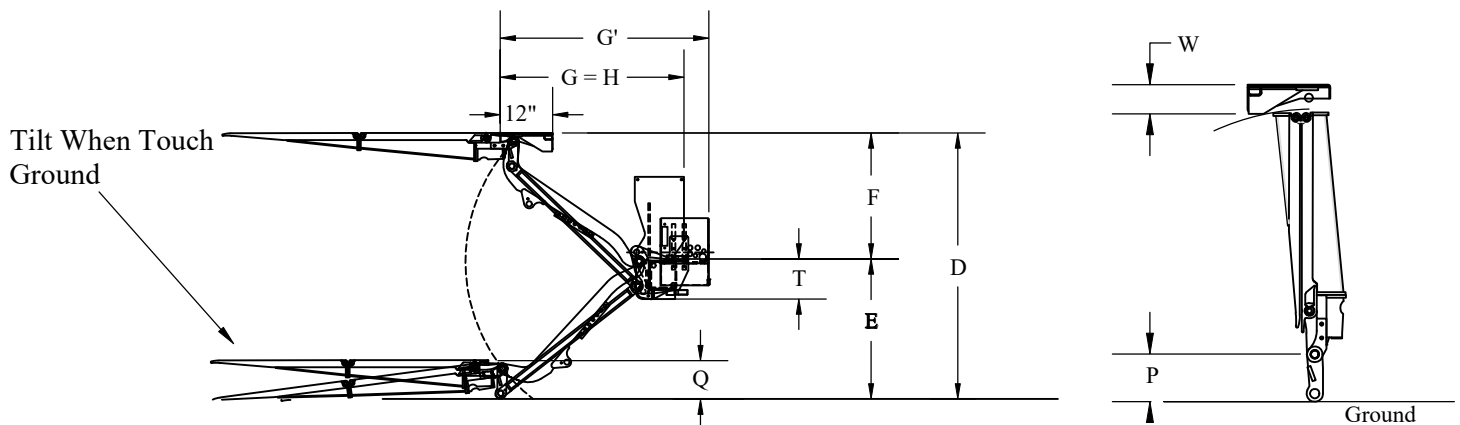

Figure 3: Liftgate General Dimensions.
Make sure you have the correct model of liftgate for your application (Figure 3).
7. **Position** the liftgate platform against the rear of the bed extension, centered and flush with the top surface. See General Dimensions (Figure 3).